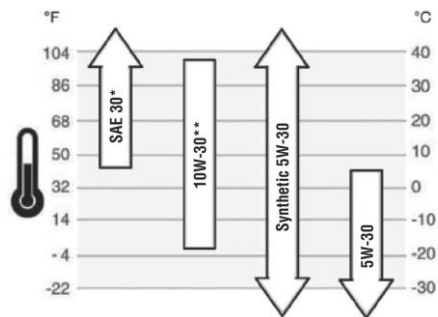

Fig. 12
4. SAE 15W-40 is recommended for general, all-temperature use. Other viscosities shown on the chart may be used when the average temperature in your area is within the indicated range (Fig. 12).